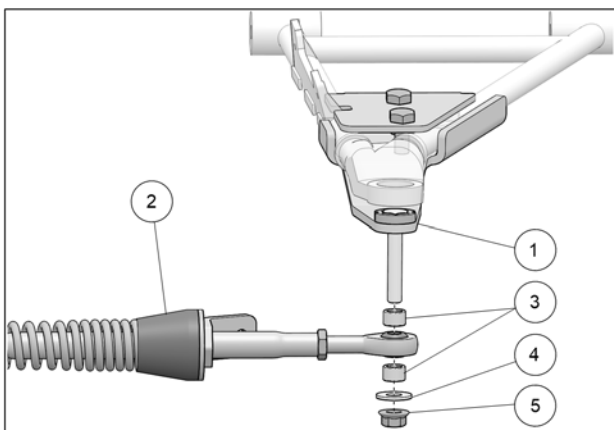

Fig. 18
8. Attach the stabilizing rod (2) to the anchor bracket (1), using the two spacers (3), washer (4), and nut (5). Torque to 70 N•m [52 lb•ft]. Refer to Fig. 18